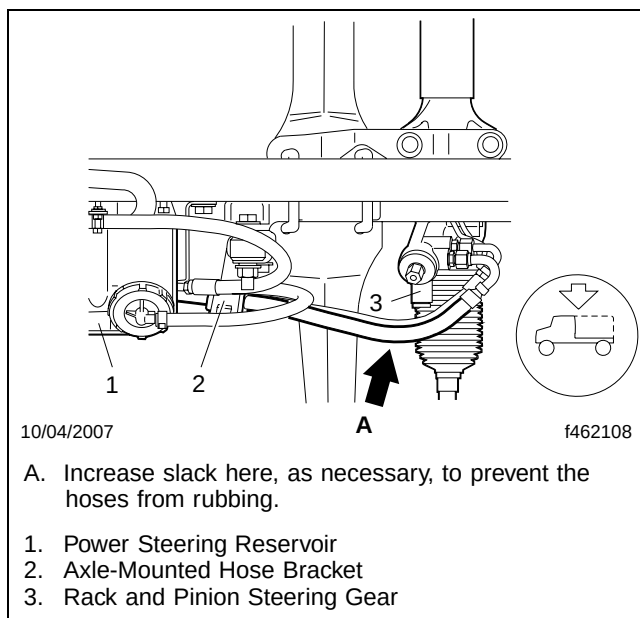
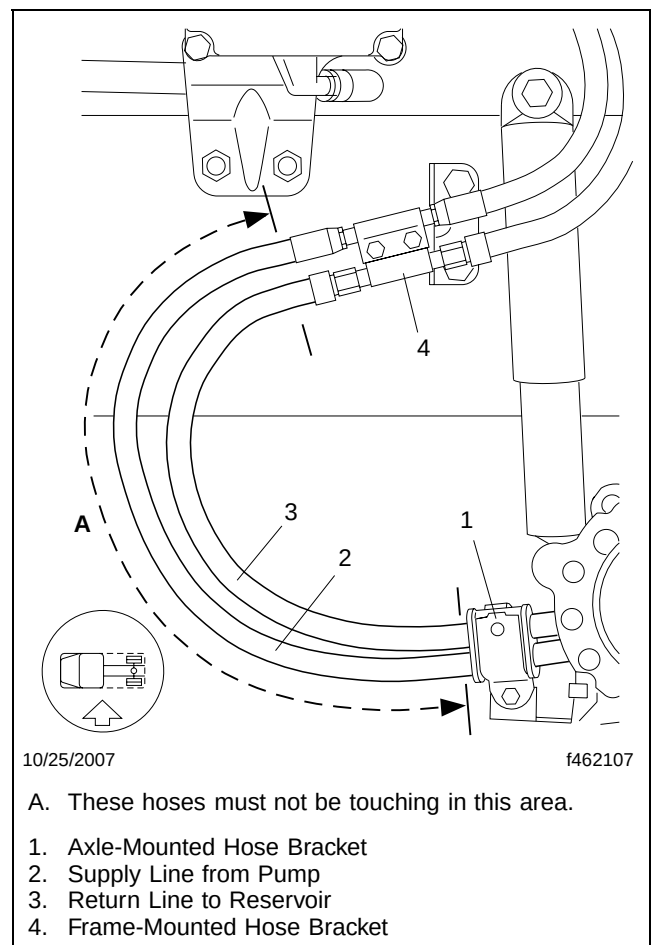

Fig. 8, View from Above
Fig. 9, Side View (fuel/water separator installed forward)
32. Include a little slack in the return line between the steering rack and the axle-mounted hose bracket (**Fig. 8**), to keep the hoses between the axle-mounted hose bracket and the frame bracket (**Fig. 9**) from rubbing together.